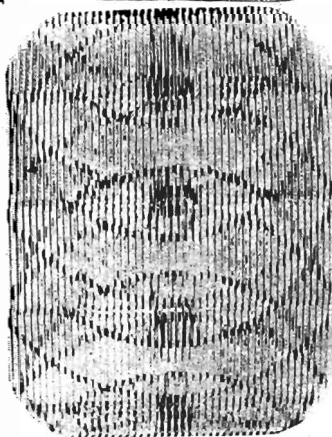

Figure 6—INCORRECT HORIZONTAL HOLD
(Above) Figure 6
6. If the picture is not steady, the "Hold" controls will require slight readjustment. If the picture is moving sideways the Horizontal Hold (inner "H" section of the knob) requires readjustment. If the picture is moving up or down or is off position, then the outer ring "O" of the knob, Vertical Hold Control, requires readjustment. See Figures 6 and 7.
Horizontal and Vertical Hold Controls—The dual knob at the back of the panel on the right controls the picture stability. The inner section designated by a "H" is the Horizontal Hold Control and when being set should be turned slowly to the point at which the picture "locks" in horizontally. Figure 6 shows the effect of incorrect setting of the control. The outer ring section designated by "O" is the Vertical Hold Control and when being set should be turned to the point where the picture "locks" in vertically. See Figure 7.